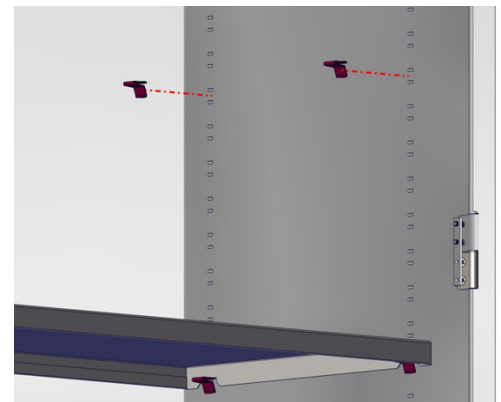

Fig 19: Remove Support Clips
3. Remove the four (four per shelf) shelf supports clips by tilting the clip upward and lifting out (Fig. 19).